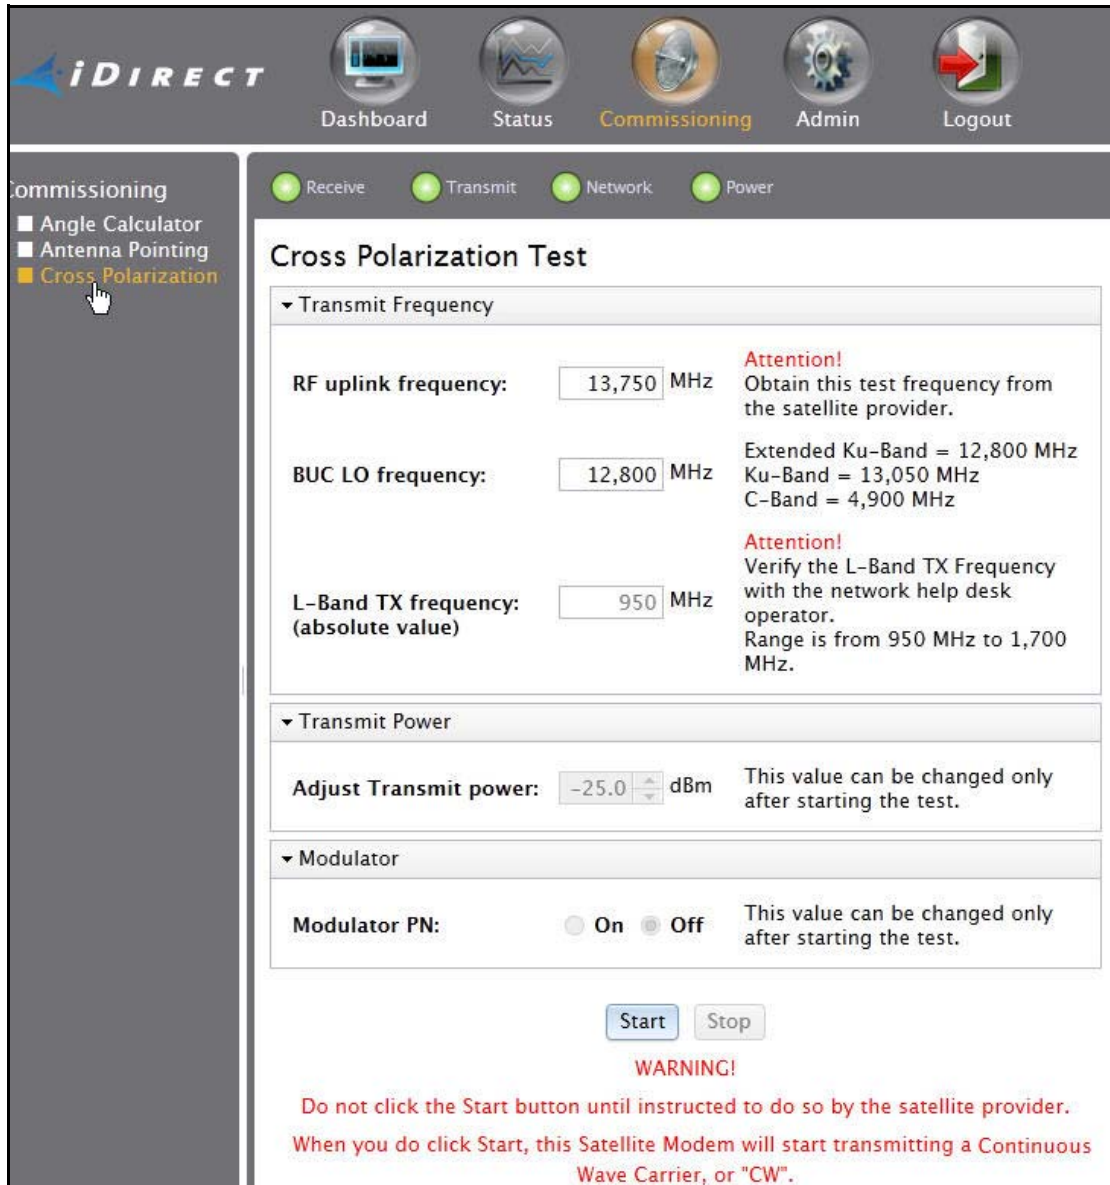

Figure 43. Evolution X1 Cross Polarization Web Page
4. In RF Uplink Frequency in iSite (Figure 42) or on the Web page (Figure 43), type the test frequency.
1. When instructed by the Satellite Provider, click the Start CW button in iSite (Figure 42) or the Start button in Web iSite (Figure 43). This will program the Satellite Router with the calculated L-band frequency and begin transmitting the CW carrier.
1. On the iSite Cross Polarization dialog box (Figure 42 on page 49) or the Evolution X1 Web iSite Cross Polarization page (Figure 43 on page 50), and with the Network Operator observing the CW carrier, increase the transmit power of the carrier in the Adjust Transmit Power drop-down box by 1 dBm increments.